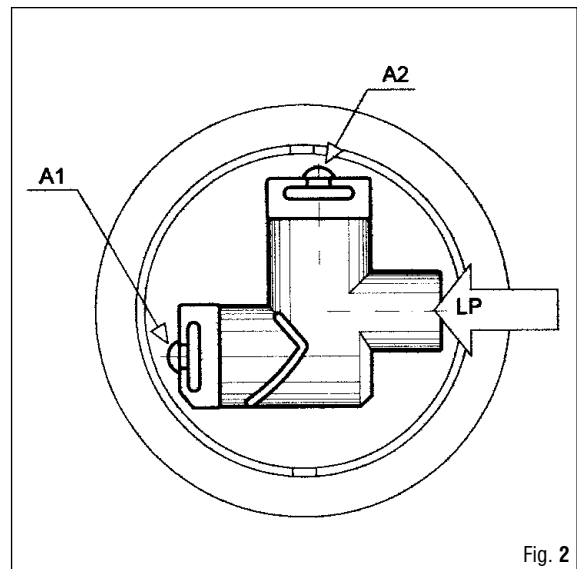

Fig. 2
▶ A.1 - DISASSEMBLY OF THE DISCHARGE BUSHING (see Fig. 2)
10. Remove the fastening fork (59), using a pair of pliers if necessary (USAG type 133 - 160 L.), or with a small flathead screwdriver (USAG type 323).
11. Pull out the discharge bushing assembly (52) from the inflator body (1) and pull out the spring (2).
NOTE IT IS RECOMMENDED THAT YOU DISASSEMBLE THE DISCHARGE BUSHING BY INTRODUCING LOW-PRESSURE AIR FROM THE HOUSING OF THE MALE COUPLING IN THE INFLATOR BODY (see Fig. 2).
▶ **A.2 - DISASSEMBLY OF THE INFLATION SOCKET (see Fig. 2)**
13. Remove the fastening fork (59), using a pair of pliers if necessary (USAG type 133 - 160 L.), or with a small flathead screwdriver (USAG type 323).
14. Pull the inflation socket assembly (20) out from the inflator body (1) and remove the spring (2).
IT IS RECOMMENDED THAT YOU DISASSEMBLE THE INFLATION SOCKET BY INTRODUCING LOW-PRESSURE AIR FROM THE HOUSING OF THE MALE COUPLING IN THE INFLATOR BODY (SEE Fig. 2)